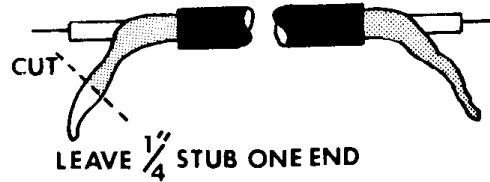

Figure 2 - Co-ax detail.
- ( ) Referring to figure 2, prepare both ends of the cable by stripping away 1/2 inch of the outer insulating sleeve to expose the shielding wire. Using a pencil or other suitable pointed object, carefully unbraid the shielding wire, pull to one side, twist tightly together and "tin". This will leave approximately 1/2 inch of the insulated inner conductor exposed. Strip 1/4 inch of the insulation from the inner conductor and twist and "tin" the exposed strands. At one end of this piece of co-ax, cut the shield so that a stub 1/4 inch long remains (see figure 2). In a later step this stub will connect to the circuit board. DO NOT shorten the shield at the other end of the co-ax.